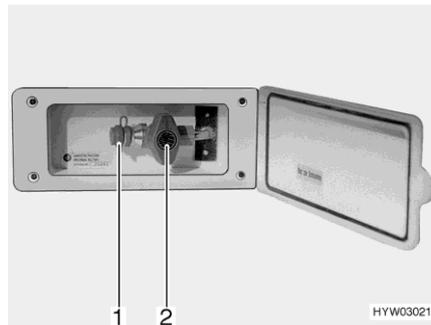

Fig. 80 External gas connection (gas isolator tap closed)
- Connect the external gas device to the connection point (Fig. 80,1).
- Open the gas isolator tap (Fig. 80,2).